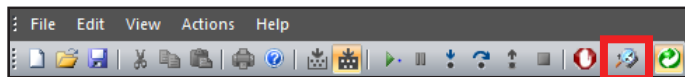
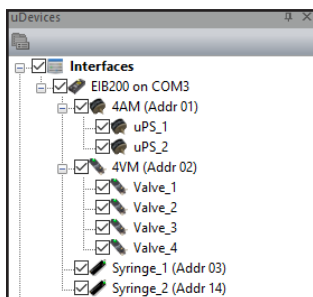

Fig. 3
Fig. 4
- 2) In uProcess, click **Rescan for devices** in the toolbar, then ensure all devices appear under **Interfaces** in the **uDevices panel** (Fig. 3 & Fig. 4). If more than one valve, pressure sensor, or syringe pump is connected, give them each unique names. (Fig. 4).